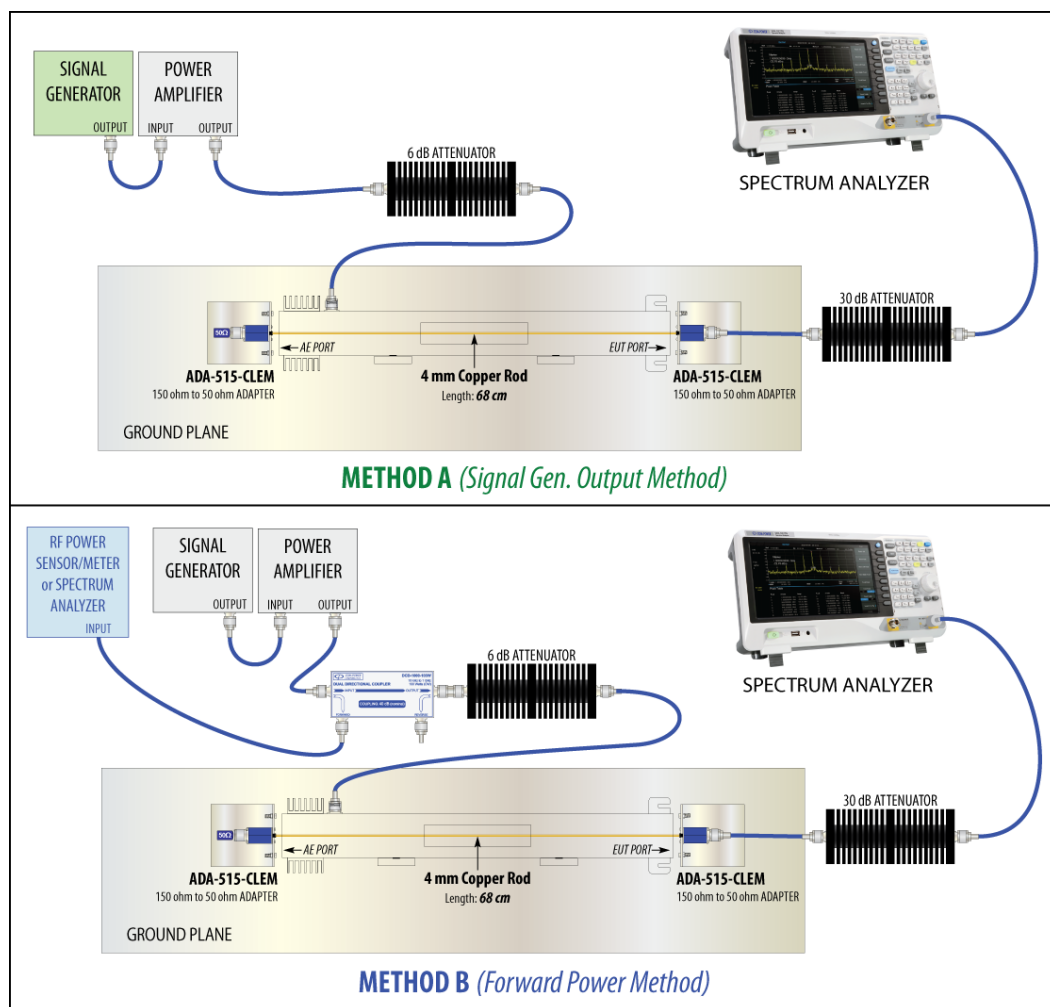

Figure 18 - Example Equipment Arrangements for Test Level Calibration
As shown in Figure 18, complete the calibration setup for **METHOD A** or **METHOD B**, as appropriate.
**Step #1** With the calibration test setup configured as shown in Figure 18, set the frequency of the signal generator and measuring instrument to 150 kHz (without modulation).